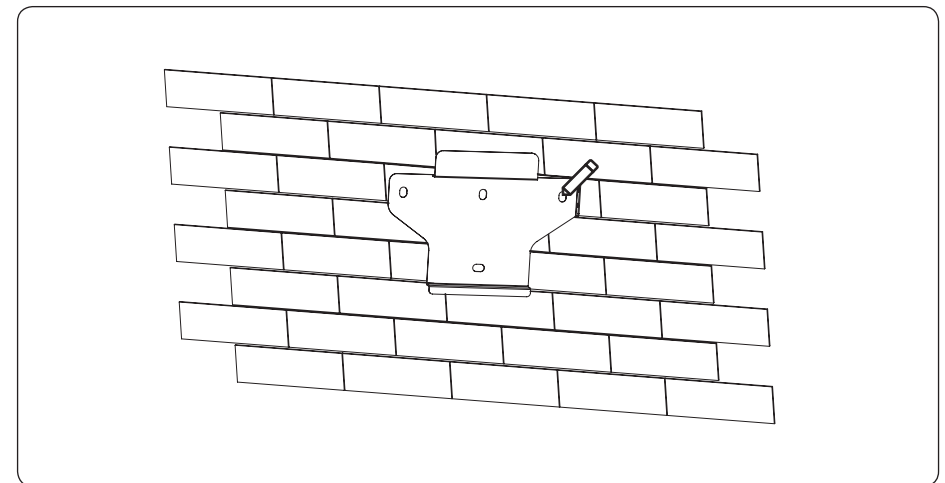

Figure 4-5 Marking hole position using installation bracket
1) Use the wall bracket as the template to mark the position of 4 holes on the wall. See Figure 4-5 for details: